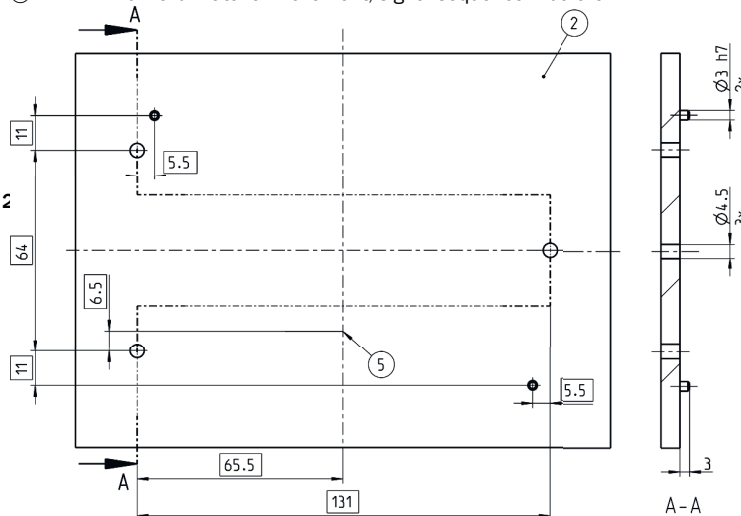

Figure 5: Mounting suggestion
6.6 Mounting the NCV50 using a SPEETEC mounting bracket and adjustment bracket (Fig. 5)
- ▶ Loosely mount the sensor ① to the mounting bracket ② using the supplied screws M4x8 ③ with M4 washers ⑨ as described under **Mounting the sensor**.
- ▶ Fasten the adjustment bracket ⑦ to the thread next to the “Config” connection on the sensor ① using the supplied screw ⑧.
- ▶ Place the unit with the contact surface of the adjustment bracket ⑦ onto the surface being measured ④ and loosely fasten it to the application ⑫.
- ▶ Align the measurement edge ⑬ of the contact surface of the adjustment bracket ⑦ parallel to the movement direction.
- ▶ If necessary, position the measurement point ⑤ of the sensor at the desired location. The measurement point is identifiable on the adjustment bracket as the intersection of the measurement edge ⑬ under the window of the sensor and the marking ⑭ on the bracket.
- ▶ Once the sensor has been correctly aligned, the mounting bracket ② is attached to the application ⑫ with 2 M6 screws ⑩ and M6 washers ⑪.
- ▶ Next tighten the three M4x8 ③ screws on the mounting bracket ② using a tightening torque of 1.5 - 2 Nm.
- ▶ To avoid damage to the material, the adjustment bracket ⑦ must be removed before commissioning the machine. To do so, loosen the screw ⑧ and then remove the adjustment bracket.